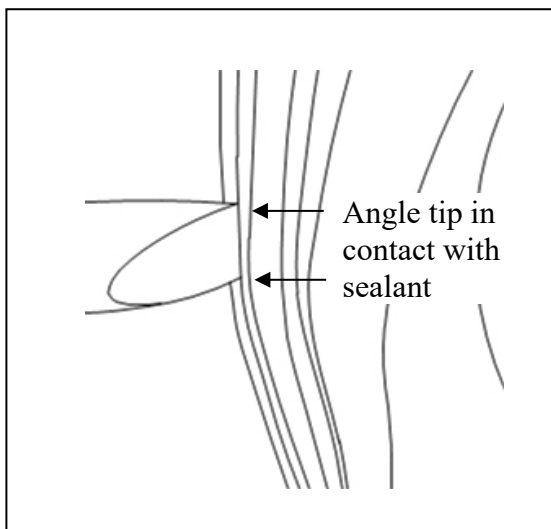

Fig. 3-3
**ADJUST:** If sealant adjustment is needed then align the adjustment tool to the edge of the door, with the angle edge positioned toward the inside of the door (Fig. 3-3).